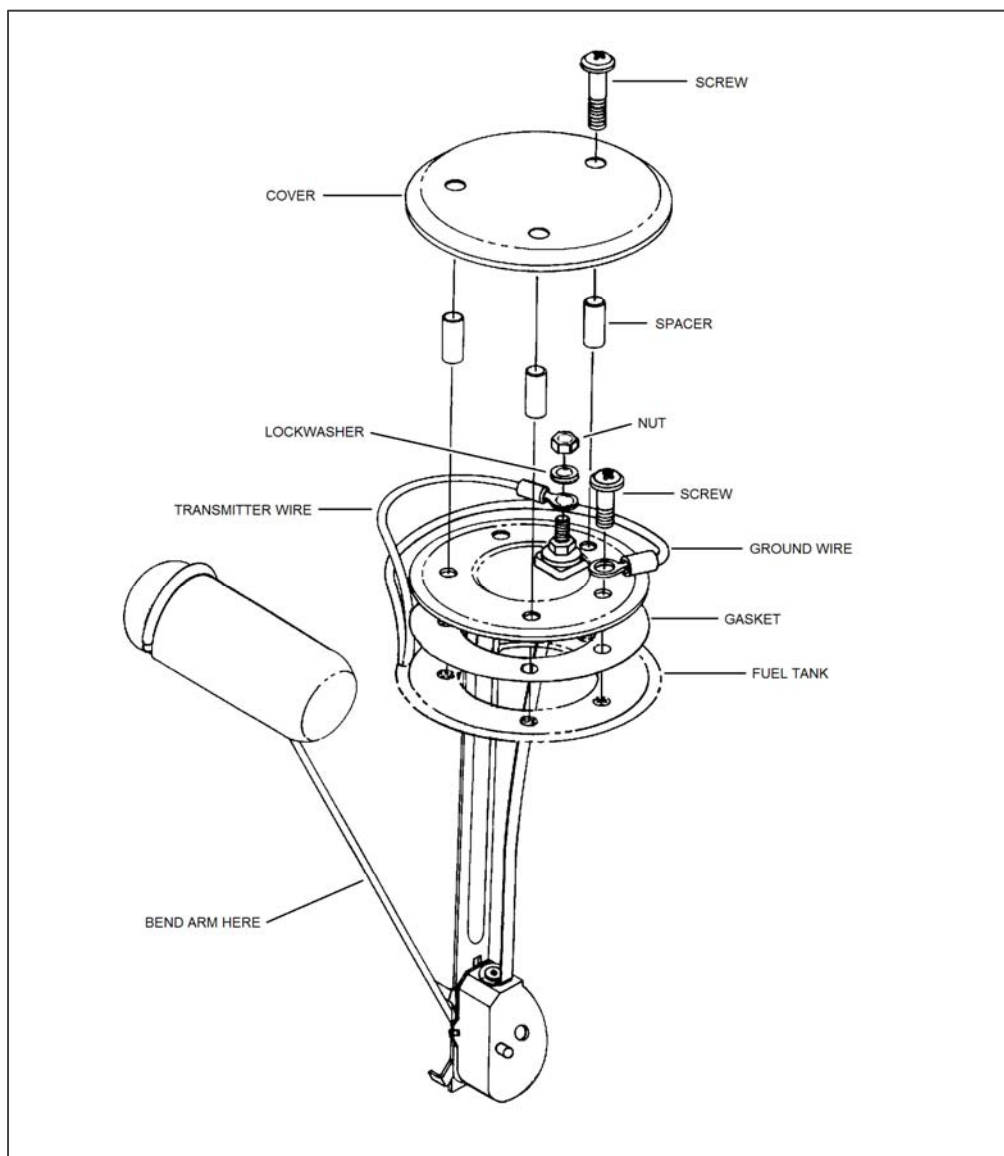

FIGURE 1. FUEL TRANSMITTER
5. Turn the Master Switch "ON" and check that the fuel quantity indicator is at "0". If the indicator is not at "0", turn the Master Switch "OFF". Disconnect the wiring from the fuel transmitter and remove the transmitter from the tank in accordance with paragraph 5.3. Bend the float arm down at the approximate midpoint if the indicator is below "0", bend the float arm up at the approximate midpoint if the indicator is above "0" (See Figure 1). Reinstall the transmitter and check the "0" indication. Repeat the adjustment procedure as required.